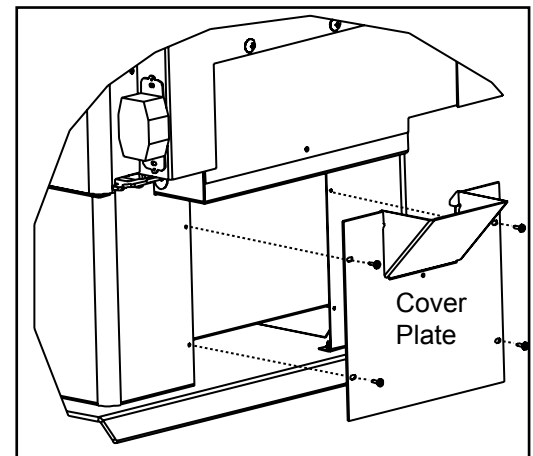

Figure 22.3
**NOTE:** If installing a floor installation of an outside air kit on a Step Top model with a pedestal assembly you must attach the enclosed cover plate to the back of the stove. Other wise you may discard this piece. **Figure 22.3.**